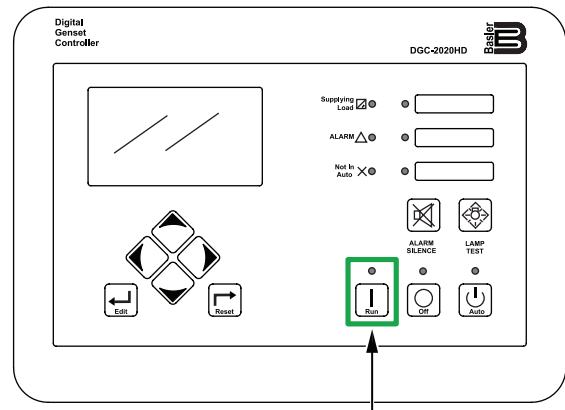

Figure 83. Digital Controller (Run Button)
2. While the engine is running, press and hold the **Run** button (Figure 83) on the digital controller.